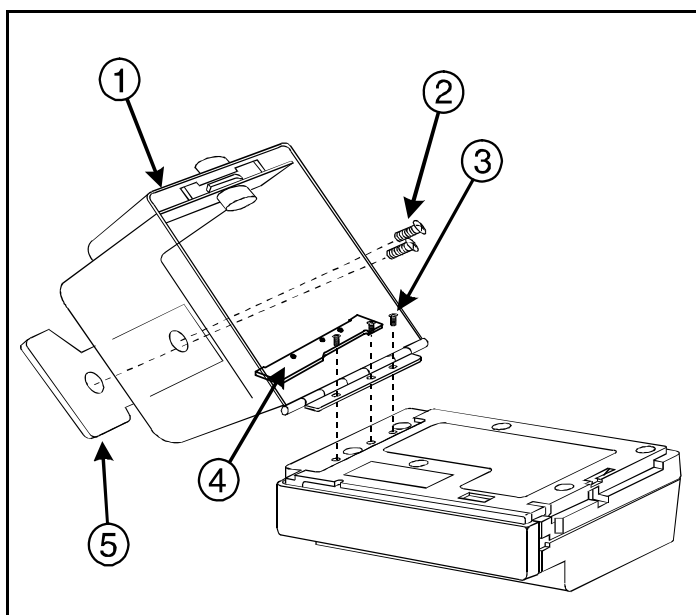

Figure 6-33. Bag Cover Assembly
1. Refer to Figure 6-33. Align the metal Hinge against the recess on the Rear Case and place the Hinge Cover (p/n 4909620001) over the Hinge, oriented so that the notched area is aligned so the label on the back of the pump can be seen.
2. Assemble the 250E Bag Cover (p/n 2L3217) to the pump using three 2-56 x 1/4" Pan Head Screws (p/n 5101101) as shown in Figure 6-33. Torque screws to 22 - 28 in-oz.